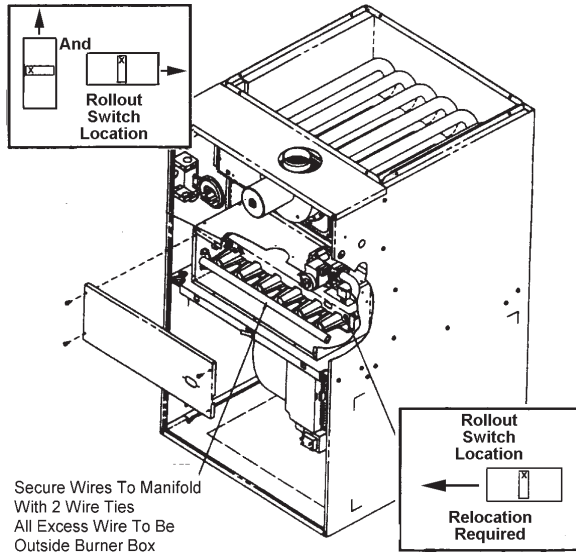

Figure 30
2. See Figures 30 & 31. Remove the cover from the burner box. Save the screws that held it in place. (**Note:** There are several screw holes, but only four screws. This is intentional, and not a manufacturing defect.)